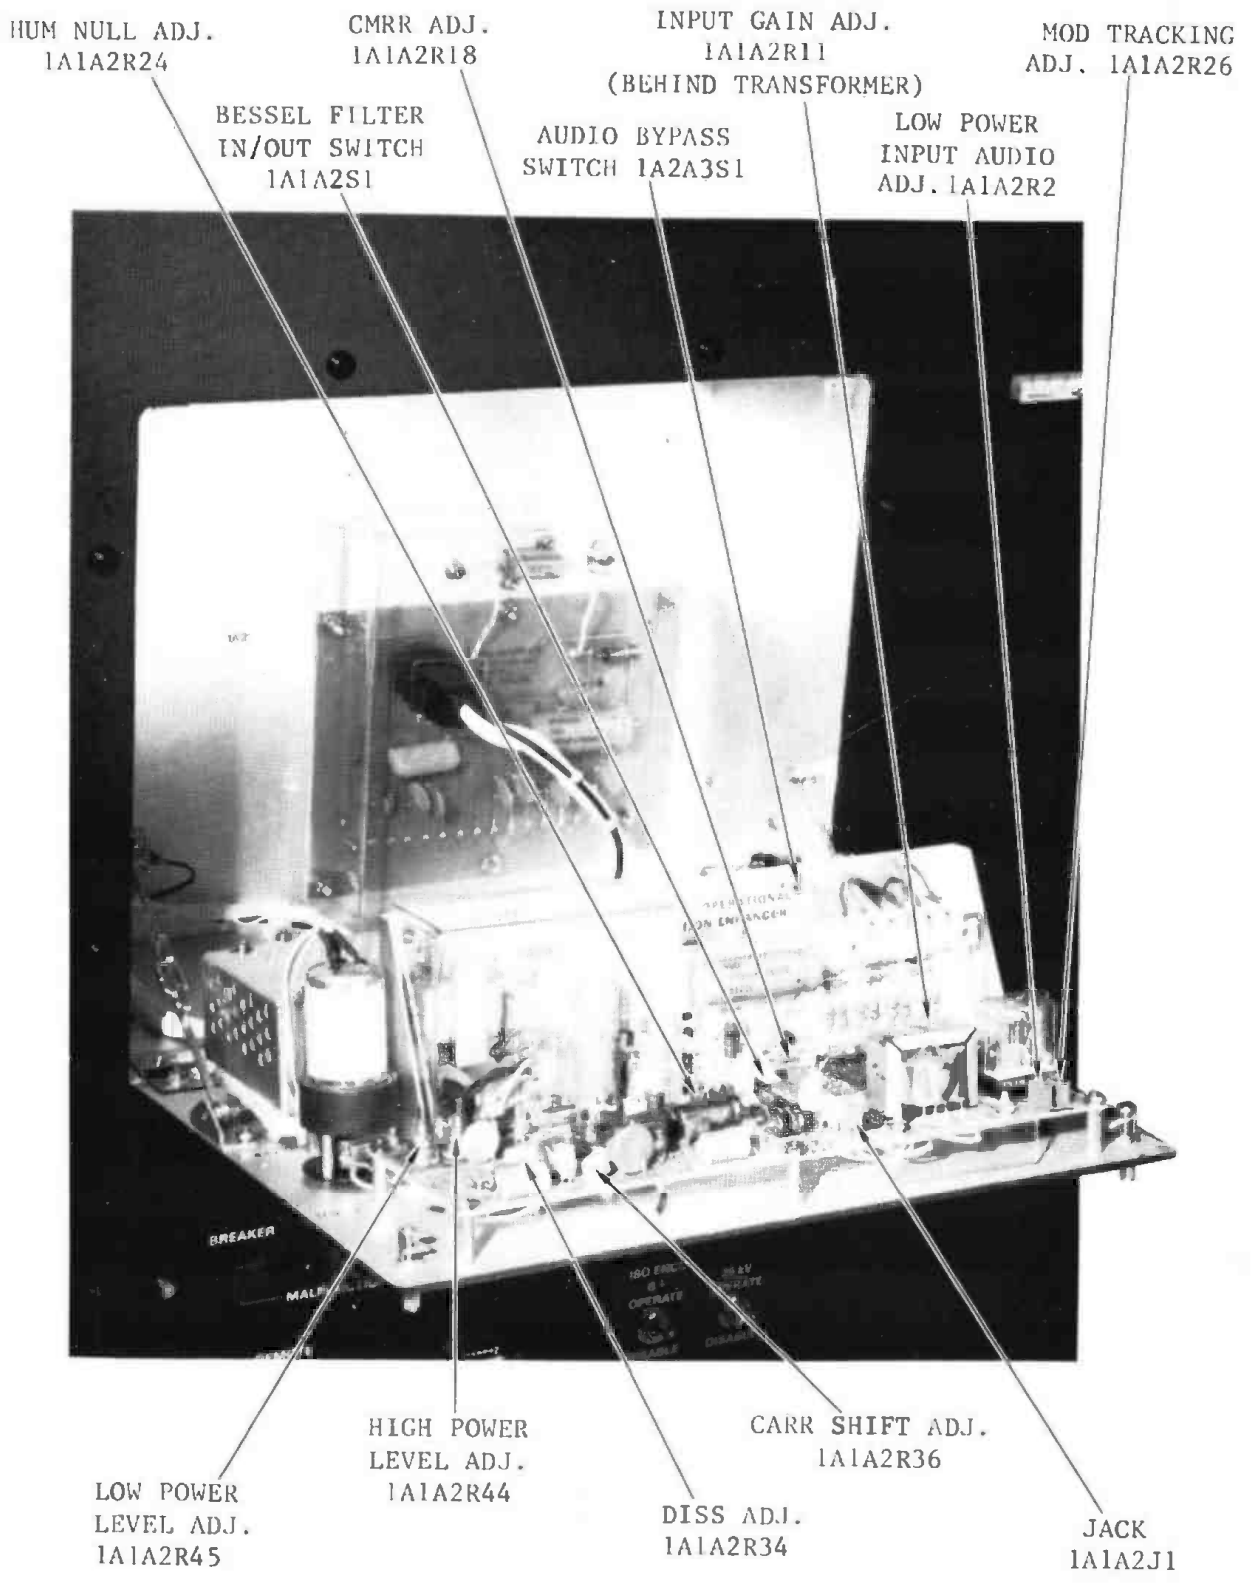

Figure 2-24. PDM Controls
- x. Open the PDM panel (refer figure 2-24) and adjust high-power level control potentiometer R44 maximum counterclockwise. Depress HIGH VOLTAGE ON pushbutton switch/indicator. The switch/indicator should illuminate. The modulator MULTIMETER should indicate approximately as shown in Column 1.
- f. Modulate the transmitter 95 percent negative with a 100 Hz tone. The POWER AMPLIFIER PLATE CURRENT METER and PA PLATE VOLTS meter indication may rise slightly. MODULATION ENHANCER bypass/operational switch 1A2S1 should be in the bypass position at this time (refer to figure 2-24).
- a. Adjust low-power level control potentiometer R45 on the PDM, chassis, maximum clockwise. Refer to figure 2-24.